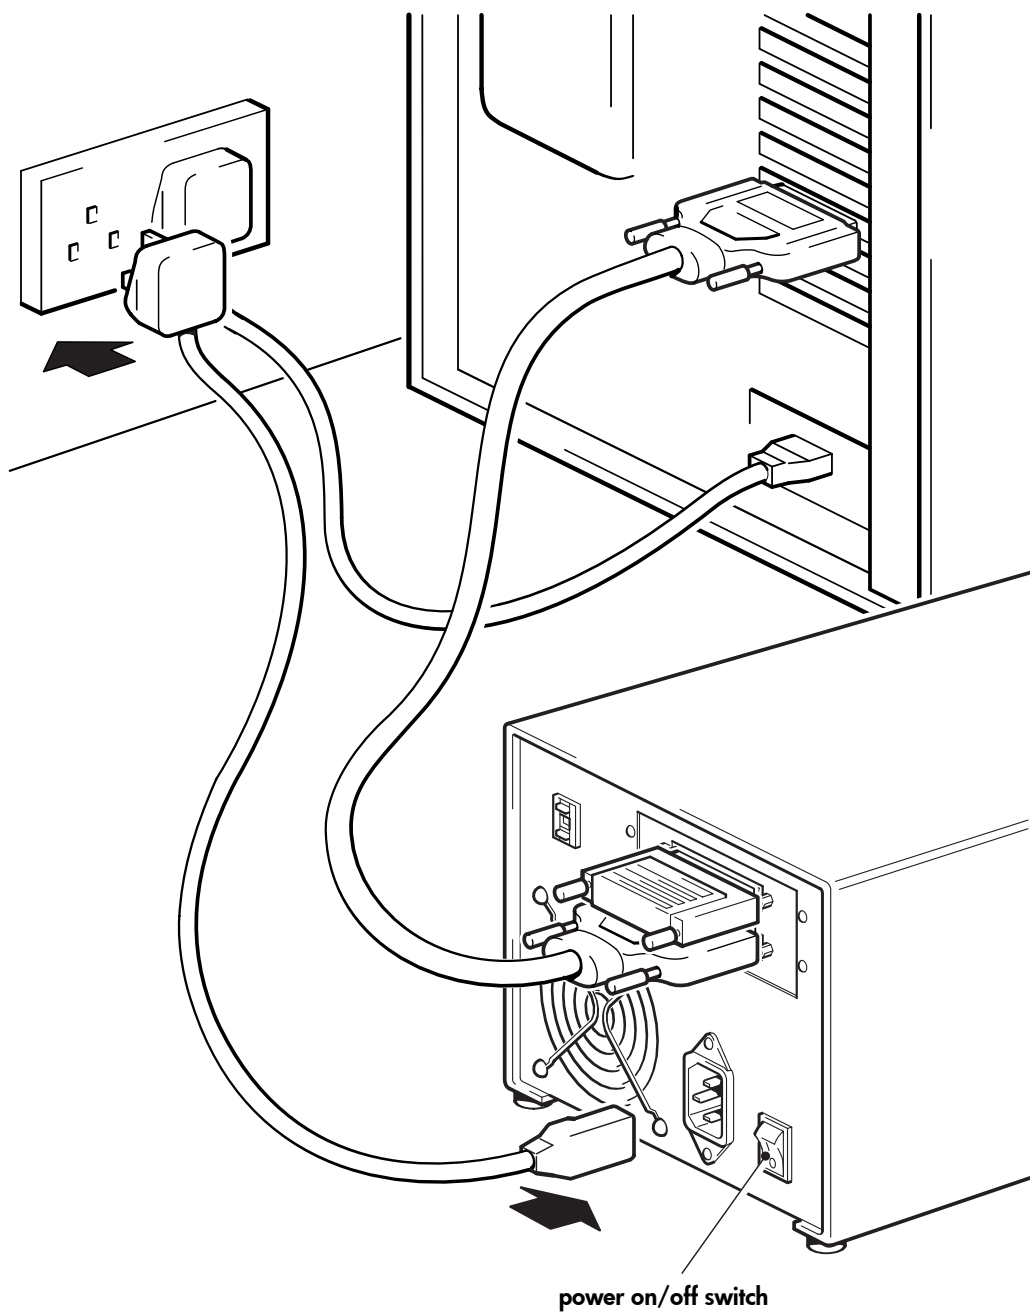

Figure 6: attaching the power cable
- 2 Plug the power cable securely into the socket on the rear panel of the tape drive. (See Figure 6.)